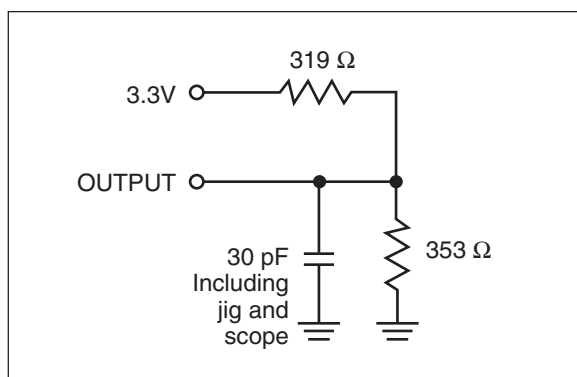

Figure 1a.
Output Load	See Figures 1a and 1b
- Test conditions assume signal transition times of 3 ns or less, timing reference levels of 1.5V, input pulse levels of 0 to 3.0V and output loading specified in Figure 1a.
1. Test conditions assume signal transition times of 3 ns or less, timing reference levels of 1.5V, input pulse levels of 0 to 3.0V and output loading specified in Figure 1a.